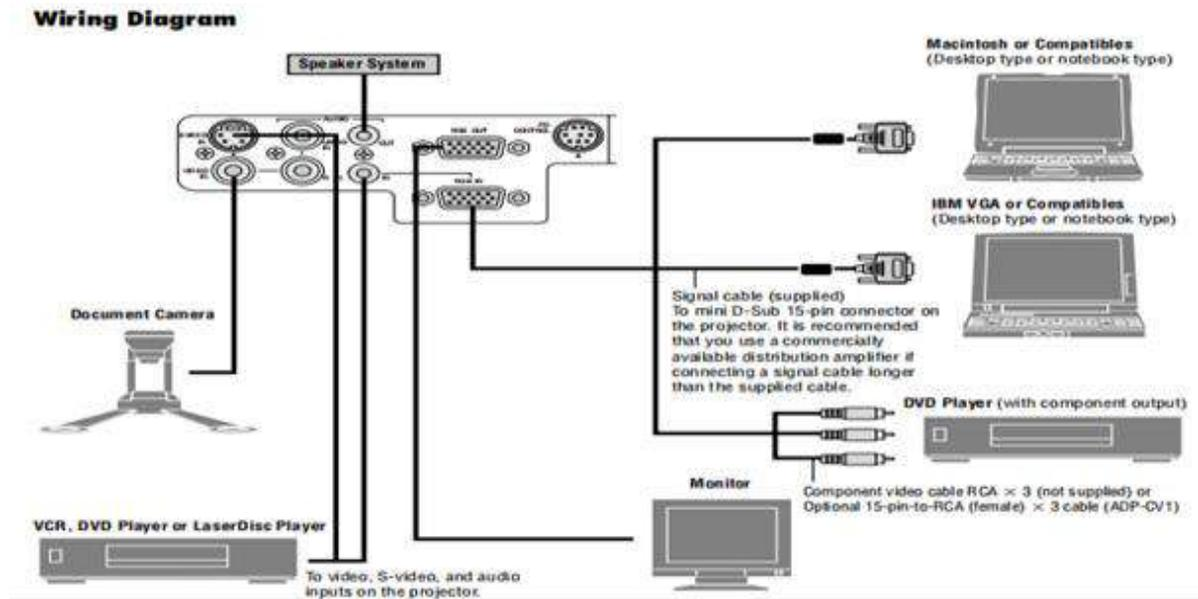

Figure-1: Wiring diagram of LCD Projector
1. Connect LCD Projector as shown in figure-1.